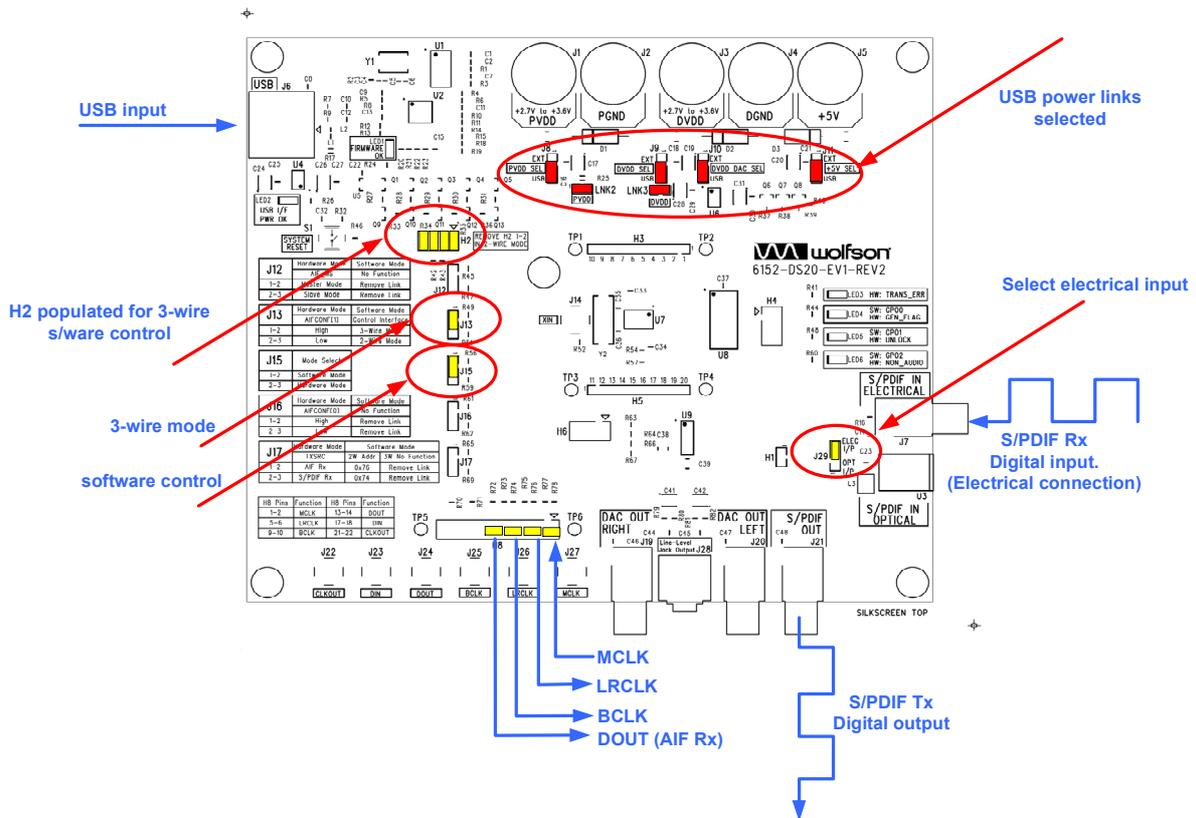

Figure 8 RX0 Input Path to Audio Interface 3-wire Software Control Evaluation Board Configuration
- Figure 8 illustrates the jumpers which must be made on the board.
The jumpers, input signals and output signals are shown in Figure 8. The yellow jumpers are those that are required.